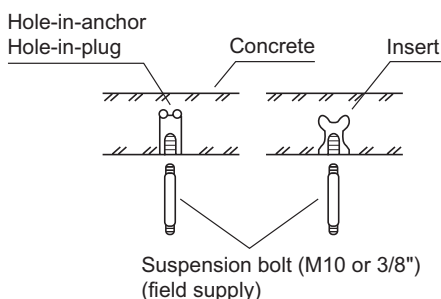

Fig. 2-141
- (1) Follow the diagrams to make the holes in the ceiling.
- (2) Depending on the ceiling type:
- Insert suspension bolts as shown in Fig. 2-141